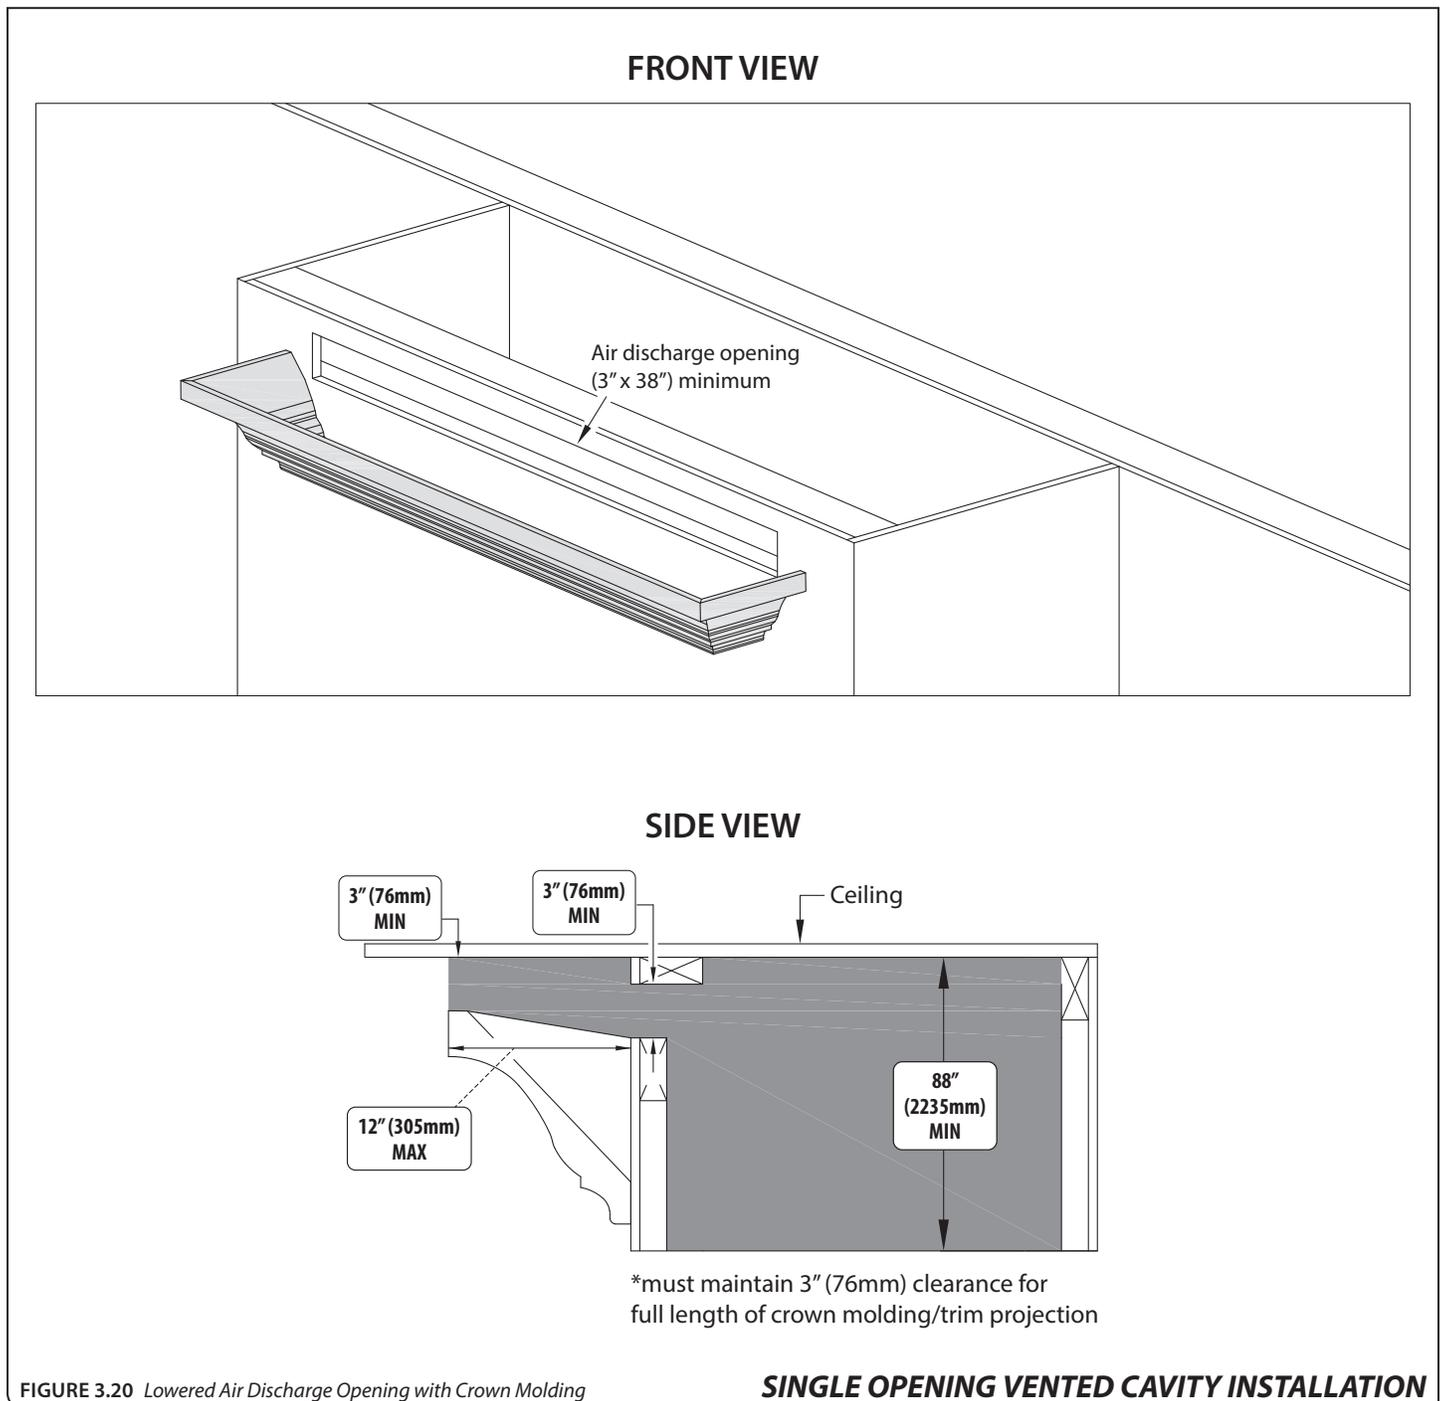

FIGURE 3.20 Lowered Air Discharge Opening with Crown Molding
- **FIGURE 3.20** shows the installation of crown molding or similar trim work that goes up to the edge of the lowered air discharge opening. 12" (305mm) is the maximum length of the molding or trim projection and you must maintain 3" (76mm) clearance for the full length of crown molding/trim projection. This molding or trim cannot decrease the minimum opening requirement.